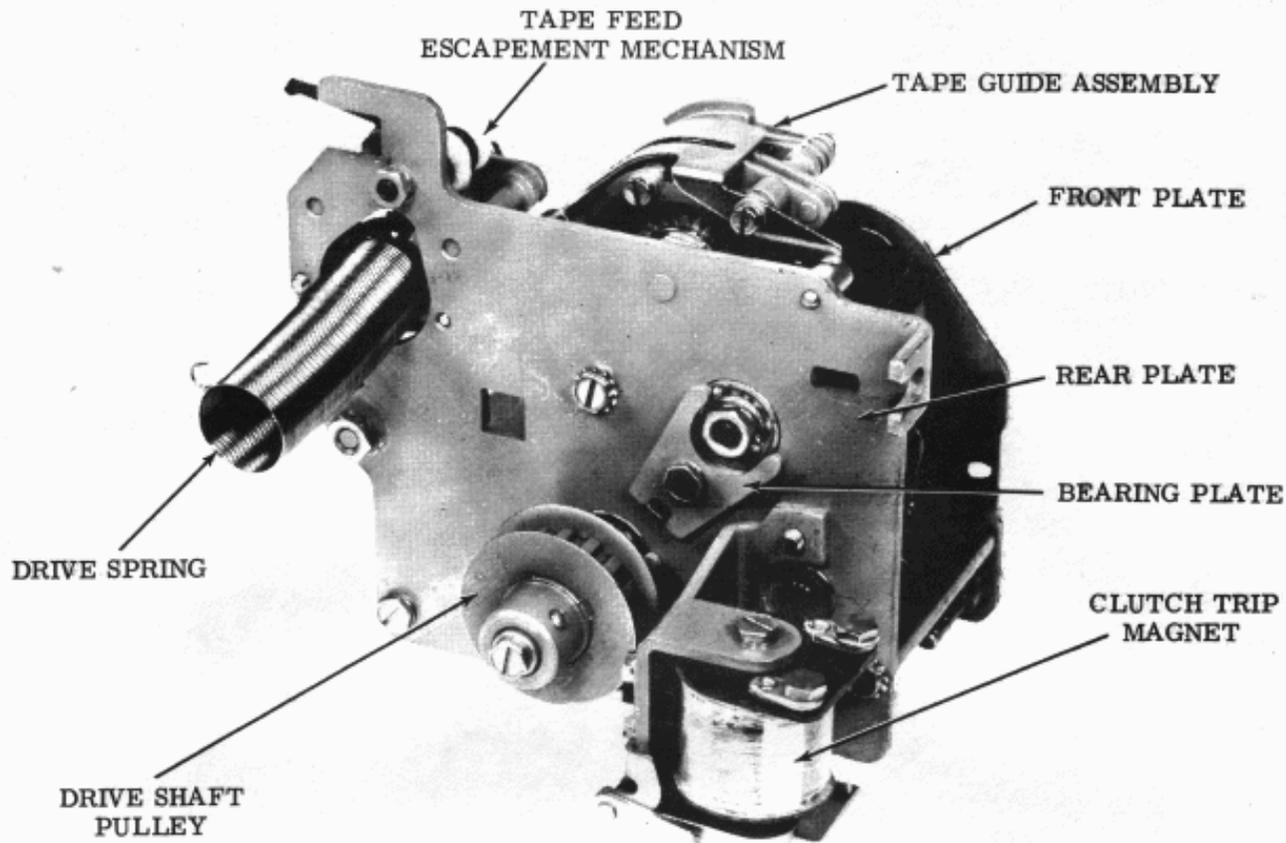

Figure 11 - Punch Backup Mechanism, Rear View
- 3.09 To remove the trip magnet assembly (Figure 11):
- 3.16 To remove the drive spring (TP149833) (Figure 11):